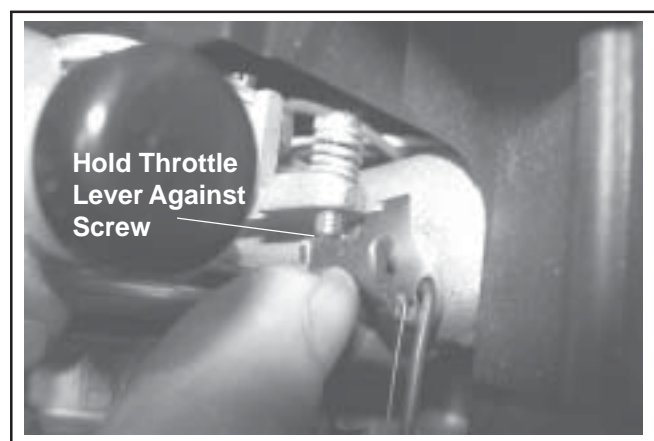

Figure 5-8. Holding Throttle Lever Against Idle Stop Screw (One-Barrel Carburetor).
2. Move the throttle control to the idle position. Hold the governor lever away from the carburetor, or hold the throttle lever so it is tight against the idle speed adjusting screw, to negate the governor activation. See Figure 5-8. Check the speed with a tachometer and adjust it to 1500 RPM.